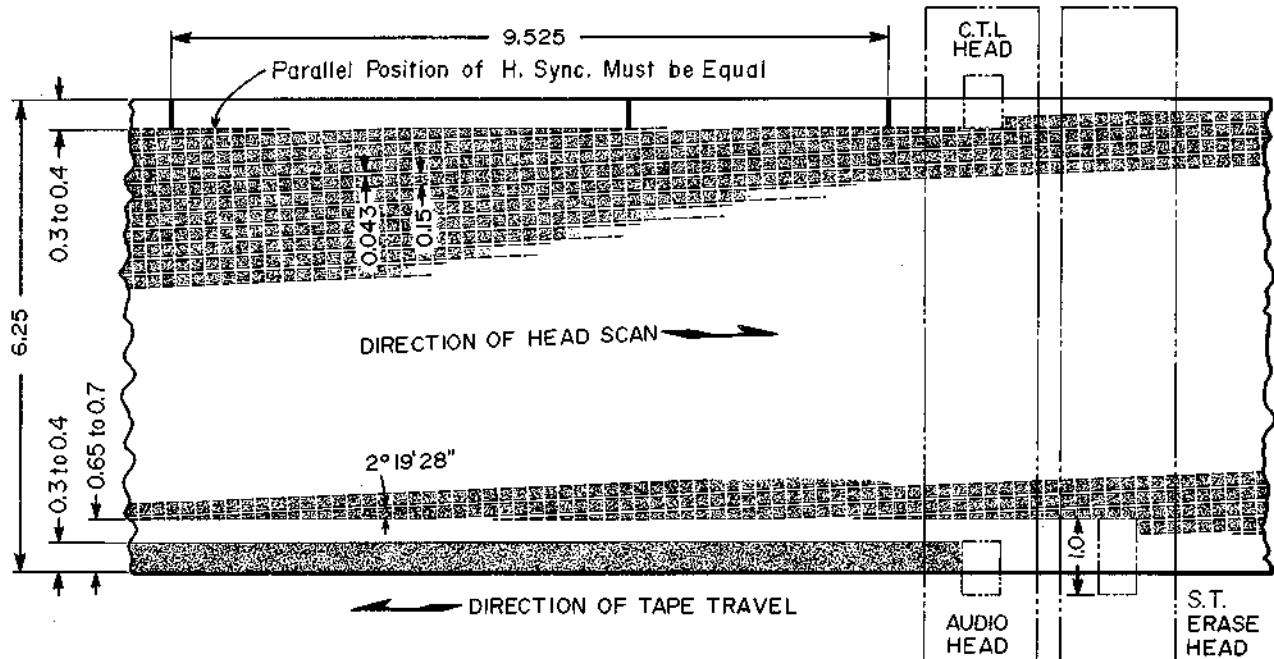

Fig. 15 Recorded Pattern of Video Tape (Viewed From Center of Head Drum)
- For proper Head Height (Side Track Erase Head, as well as CTL and Audio Head), adjust to position as shown in Fig. 15.)